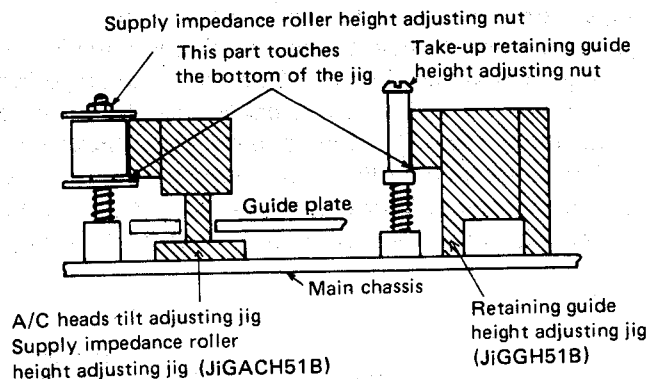
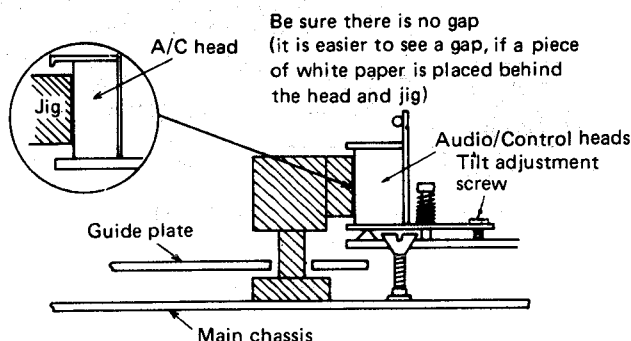
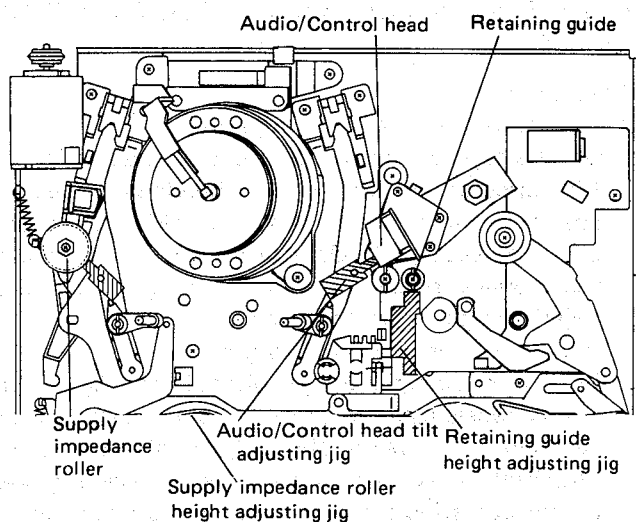

Figure 19.
Figure 20.
Figure 21.
Set the supply impedance roller height adjusting jig (the same as the audio/control heads tilt adjusting jig) on the main chassis as shown in Fig. 19. For details, also see Fig. 21. Using a box driver, slowly turn the supply impedance height adjusting nut until the roller's height is as specified.
Set the retaining guide height adjusting jig on the main chassis as shown in Fig. 20. For details, also see Fig. 21. Using the adjusting screwdriver (JIGDRIVERH-4), slowly turn the retaining guide height adjusting nut until the guide's height is as specified.
Set the audio/control heads tilt adjusting jig on the main chassis as shown in Fig. 19. For details, also see Fig. 21. Using a philips screwdriver, slowly turn the adjusting screw until there is no clearance between the jig and audio/control heads. (See Fig. 20)
2. Undo the tilt adjustment screw ⑥ with a hexagonal wrench.
3. Remove the screw ⑤ (3P+8S) with a philips screwdriver.
4. Undo the audio/control heads screw ④ with a philips screwdriver: pay attention to the spring between the audio/control heads plate and the audio/control heads screw.
7. Adjust the audio/control heads tilt angle as shown in Fig. 20.
4. Set the tilt angle of the audio/control heads as shown in Fig. 20.